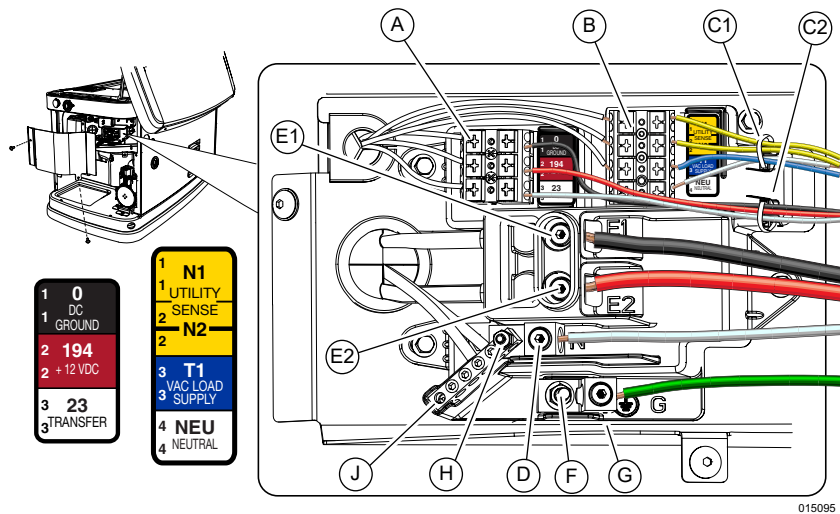

Figure 6-1. Electrical Wiring Connections
See Figure 6-1. The electrical wiring enclosure is located behind an access panel on intake end of unit. Remove intake side panel as directed in Intake Side Panel Removal, and then remove access panel. Connect wires according to diagram and tables.
4. See Figure 6-1. Strip insulation from wire ends. Do not remove excessive insulation. Route sense wires through supplied wire tie (C1), and connect to sense wire terminal block (B). Push down on spring loaded connection point with a flat head screwdriver, insert wire, and release.
5. Using the same process, route control wires through second supplied wire tie (C2), and connect to control wire terminal block (A).
2. See Figure 6-1. Loosen lugs at neutral (D), ground (G), and power wire (mains) terminals (E1, E2).
See Figure 6-1. Connect a suitably sized system bonding jumper in accordance with NEC Table 250.102(C)(1) from neutral bar (J) to ground stud (F). Tighten ground stud nut to 35 **in-lbs** (3.95 Nm). This is required when generator is installed as a separately derived system. Generator will also require a connection to a grounding electrode system in accordance with NEC Article 250.64. It is not required when generator is a backup source in a utility supplied electrical system with a 2-pole transfer switch. Installation must be made in accordance with NEC Articles 250.30 and 250.35(A) if generator will be installed as a separately derived system.